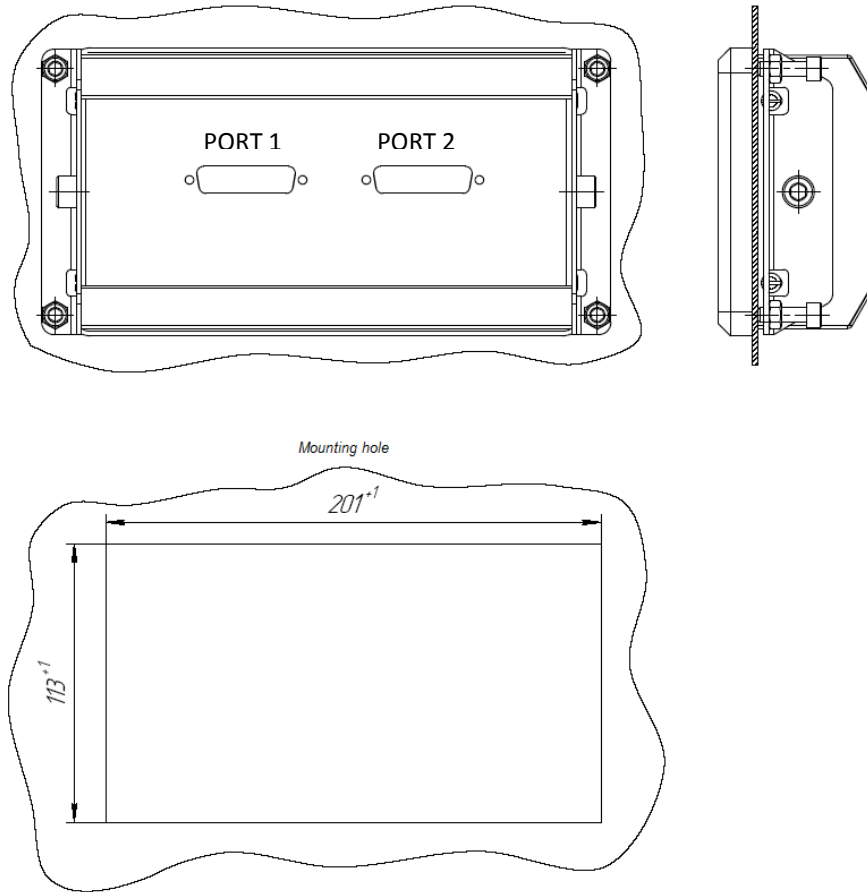

Fig. 4 Console installation of the panel
- guidelines for console installation are shown in Fig. 4.